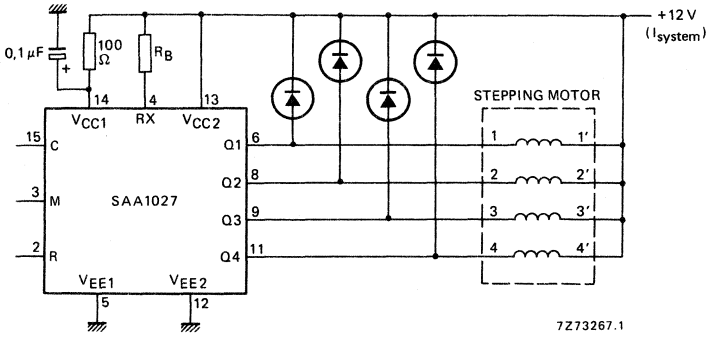

Fig. 2.
- When both the IC and the motor are connected to the same supply, a simple RC network (see Figs 2 and 3) must be used in the logic supply line to prevent the logic sequence from being disturbed by transient spikes caused by the motor coils being switched. The  $R_B$  value varies per motor type. The capacitor should be connected as close as possible to pin 14.